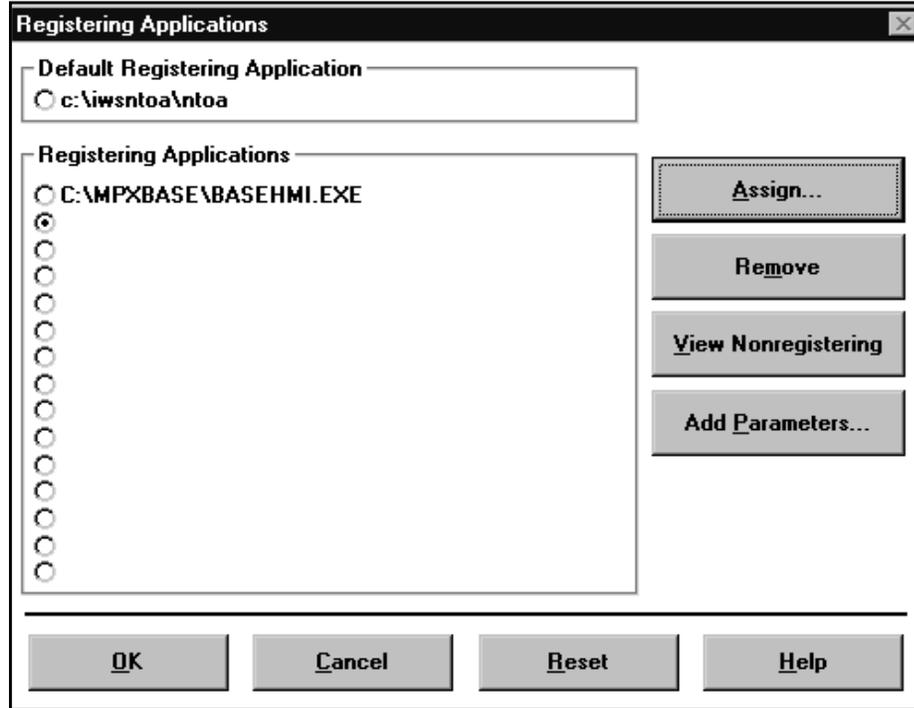

FIGURE 58. Example of Registering Applications dialog box
1. In the configuration window, select Register. The Registering Applications dialog box displays with the default registering application. (See Figure 58.)
The view shown in Figure 58 on page 99 has 15 lines plus the top line. Thus you can list 16 registering applications for both the standard and extended versions of the IWS base. However, the standard version of IWS base supports five registering applications, so even if you list 16, only the first five are supported.